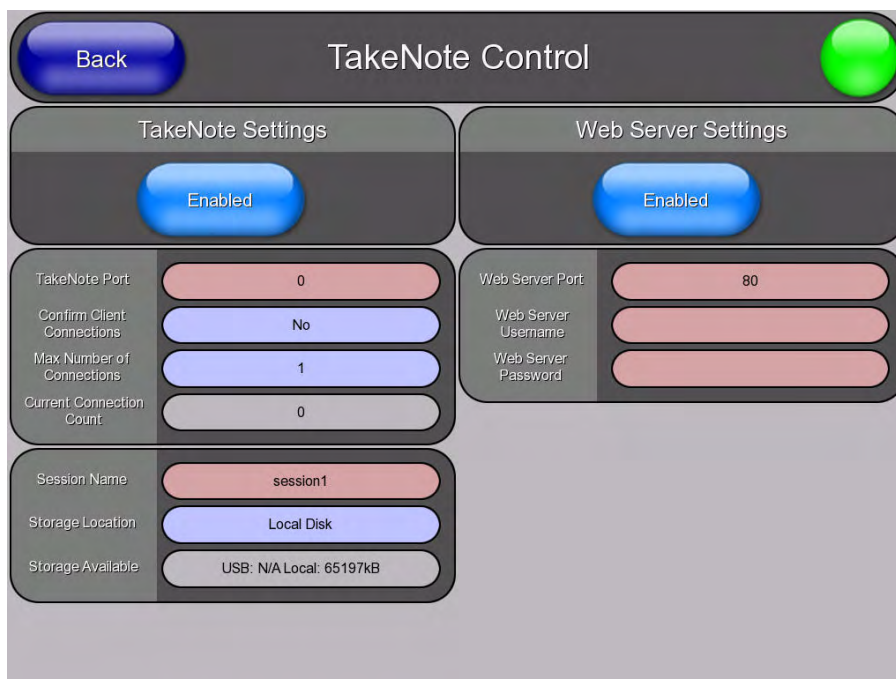

FIG. 122 TakeNote Control page - Web Server Enabled
1. Verify that the Web Server is enabled in the TakeNote Control page, as shown in FIG. 122.